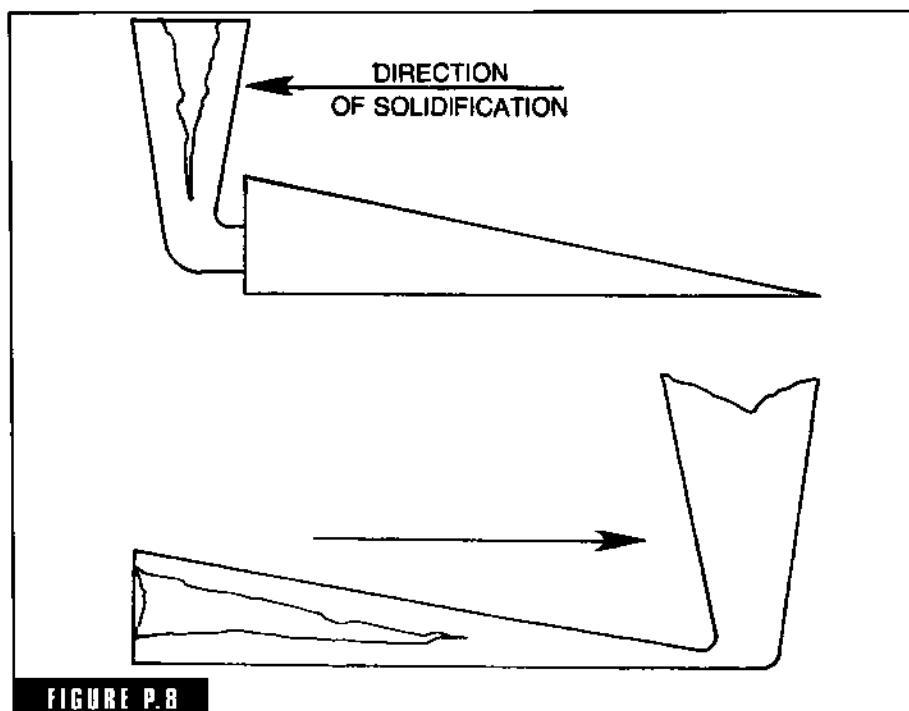

FIGURE P.8
**progressive solidification** The solidification of a casting from the thin sections the farthest away from the sprue toward the sprue or riser (Fig. P-8). It is accomplished by correct design, chills, correct gating, and risering.